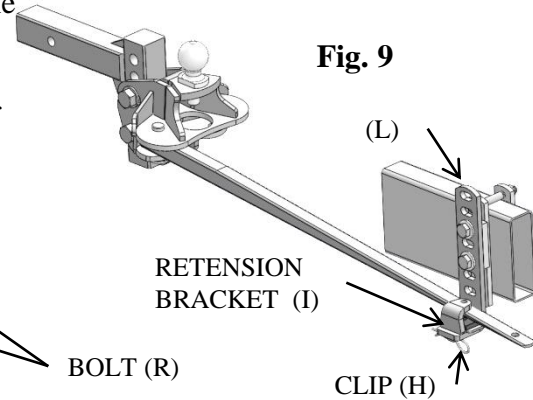

Fig. 9
- Place spring bar retention bracket (I) into the L-bracket (L) and secure with clip (H) as shown in Fig. 9.
- Lower tongue jack. Re-measure the front wheel well reference point. Front wheel height must be equal to the original measurement. If the front wheel height is higher than previously measured, the head tilt angle must be increased (tilted downward). If the front wheel well height is substantially lower than originally measured (1" or more), the head tilt angle must be reduced (tilted upward). For coarse adjustment, the L-bracket (L) can be lowered one hole to bring the front wheel well back up. The spring bars must be unloaded and removed from the L-bracket (L) prior to adjusting the head tilt angle or removal of the nuts (T). If the head angle or L-bracket adjustments are made, repeat hook up steps until the front wheel well height is approx. equal to the original measurement. It is preferred that the rear of the vehicle settle about the same amount or more than the front.
- Remove spring clip (H), fig. 9, from spring bar retention bracket (I). Remove bracket.